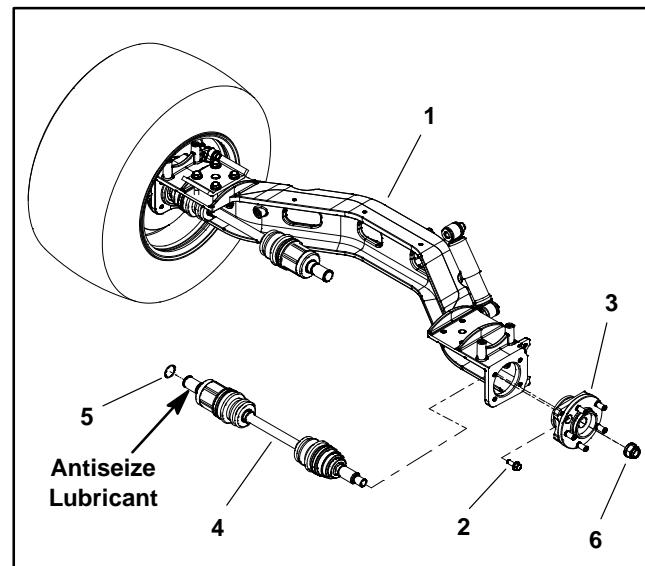

Figure 46
- Using wheel hub hole to access flange head screws, remove screws that secure wheel hub assembly to rear axle (Fig. 46). It is not necessary to remove wheel hub assembly from CV axle so spindle nut does not have to be loosened.